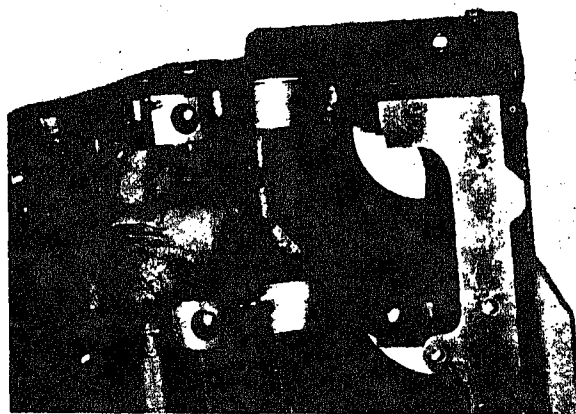

Fig. 1-1-8. Checking clearance between block and liner
2. Clearance between liner and block should be as shown in Fig. 1-1-8 and listed in Table 1-1-6.